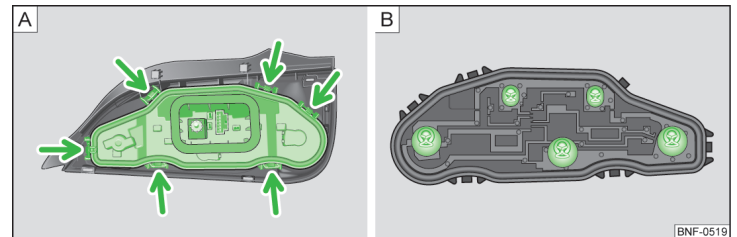

Fig. 135 Replacing bulbs
- Unlock the lamp holder » Fig. 135 - **A** and remove the holder from the lamp. ▶